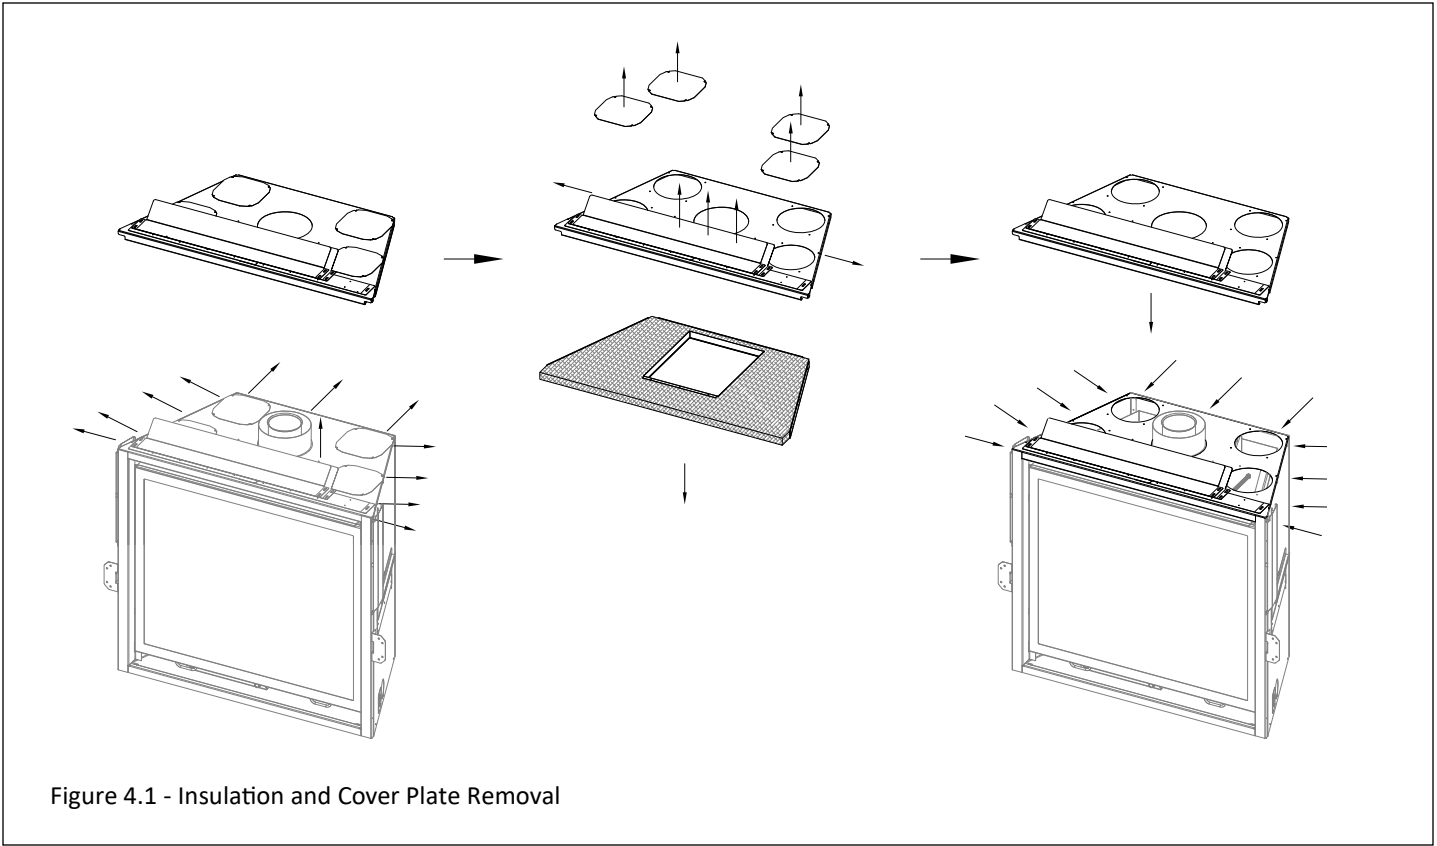
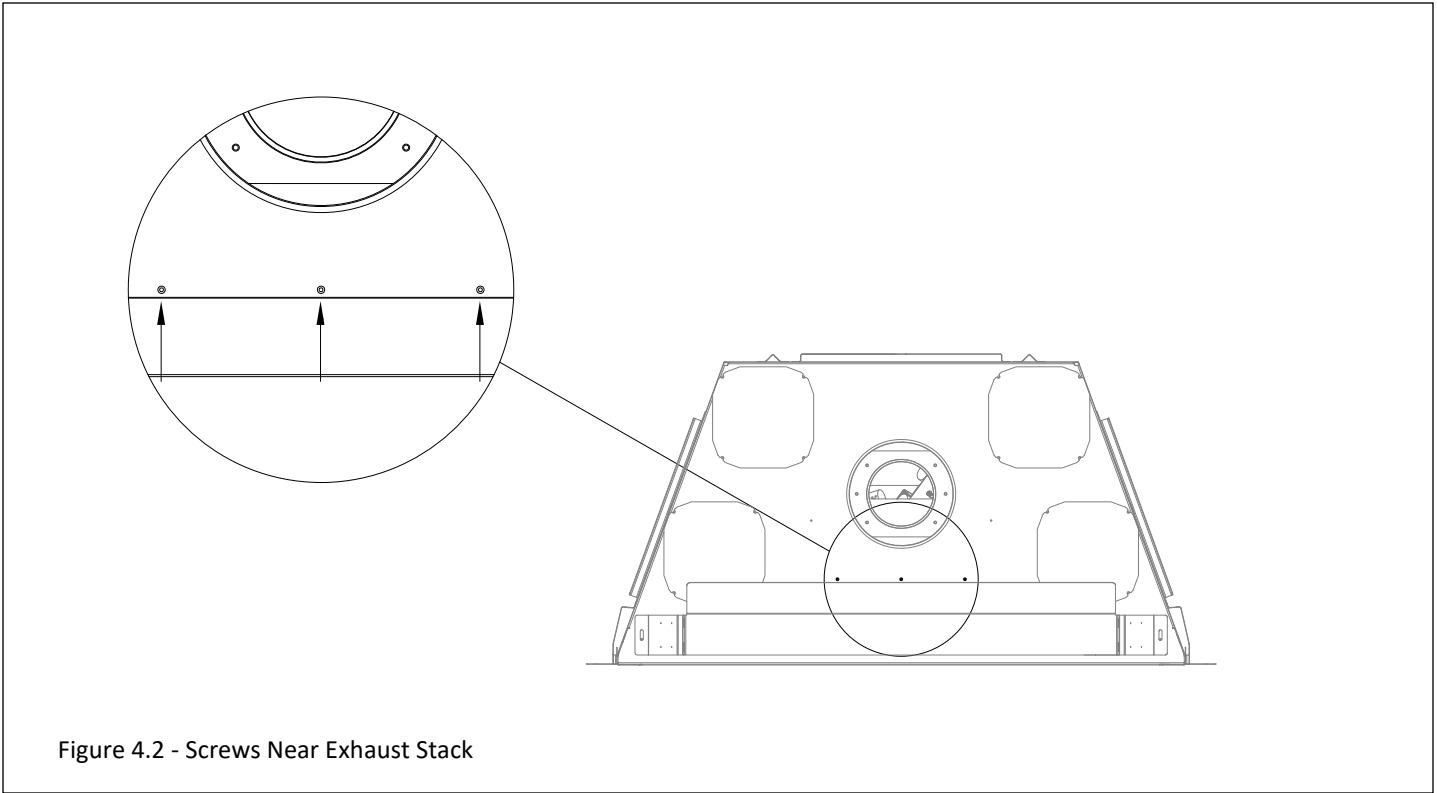

Figure 4.1 - Insulation and Cover Plate Removal
Figure 4.2 - Screws Near Exhaust Stack
- The appliance convection plates and insulation must be removed for Komfort Zone Kit installations, as shown in FIGURE 4.1 & Figure 4.2.
1. Remove the (11) sheet metal screws that secure the top outer shell assembly. Pull this assembly straight up around the exhaust stack to remove it from the appliance. See the first image in Figure 4.1.
2. Remove the (4) cover plates where each cover plate is secured with (4) sheet metal screws. See the second image in Figure 4.1. Discard these cover plates.
3. Remove (3) sheet metal screws from the top of the assembly (see close up in Figure 4.2) and (2) sheet metal screws on the side of the assembly (one screw on each side shown in the second image of Figure 4.1). You are now able to separate the two sections of the top outer shell assembly. Remove and discard both the insulation and the bottom section of the top assembly. Additionally discard the (4) cover plates shown in the second image of Figure 4.1.
4. Reinstall the top outer shell piece on the appliance with the previously removed (11) sheet metal screws.